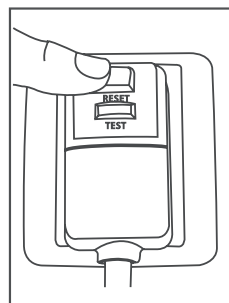

Figure 1
3. Press the RESET button. Again you will notice a click as the button engages. (See Figure 1)
1. Take the hose out from back of the unit. (See Figure 1)